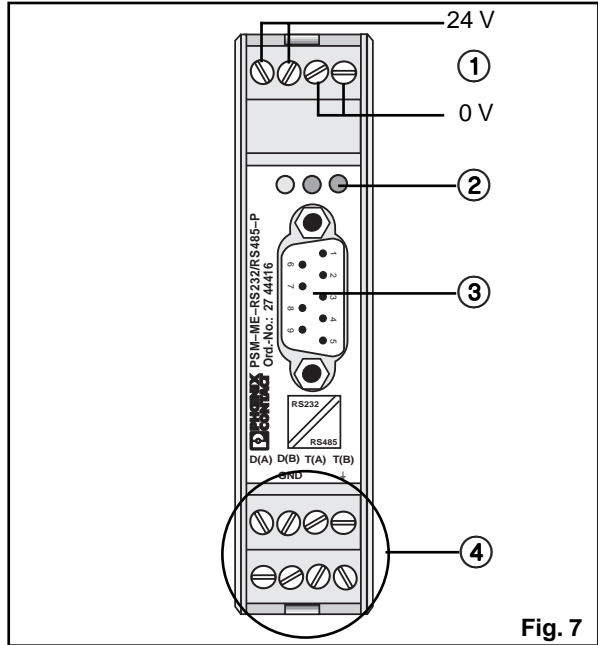

Fig. 7
5.1. Connections (fig. 7)
- ① **Plug connector power supply**